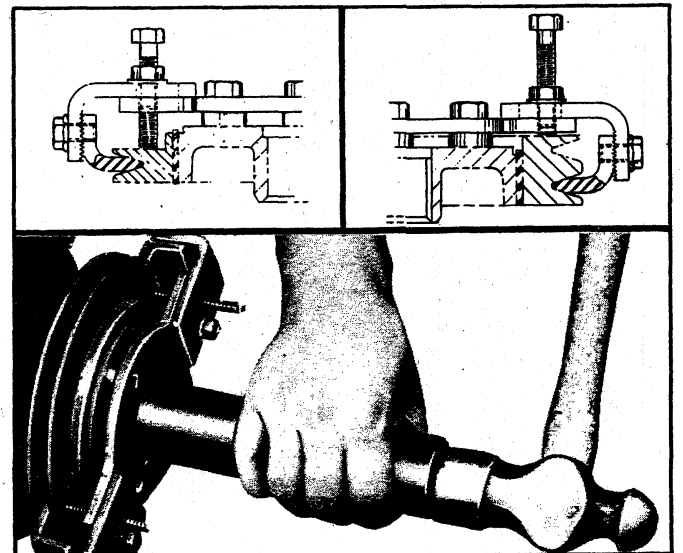

Fig. 10L - Installing Torsional Damper
2. Attach damper installer Tool J-22197 to damper. Tighten fingers of tool to prevent weight from moving (fig. 10L).
3. Position damper on crankshaft and drive into position, using J-5590, until it bottoms against crankshaft gear (fig. 10L). Remove installer tool.